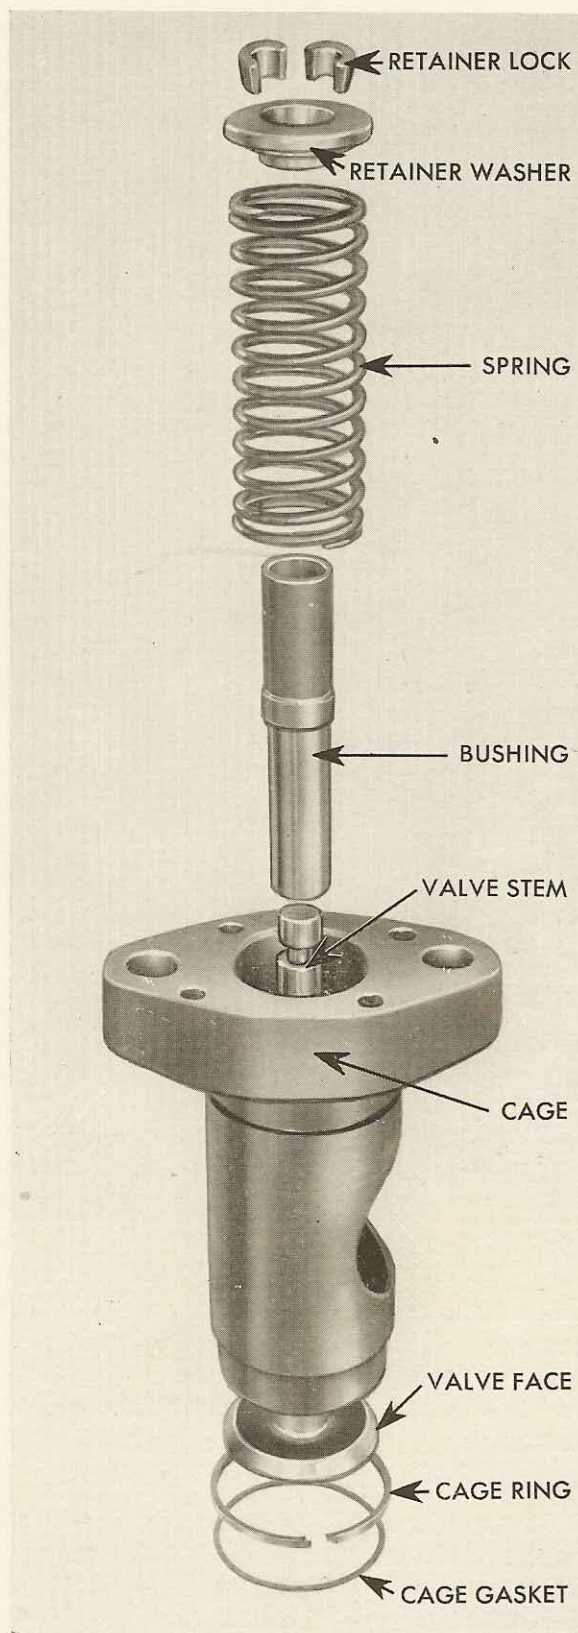

FIGURE 11-6
6. DISASSEMBLY OF THE EXHAUST AND INLET VALVE CAGES: Figure 11-6 shows the various parts of an inlet or exhaust cage assembly.
The cage sealing ring should be removed and the groove cleaned out. After replacing the ring, assemble the valve in the order shown in Figure 11-6. The retainer lock can be replaced by the same device used to remove it.